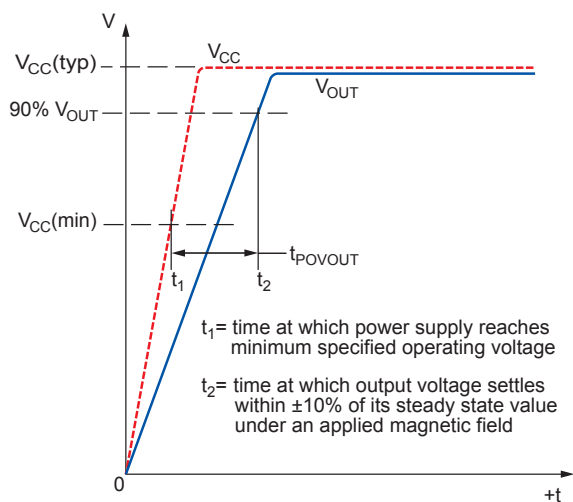

Figure 1. Definition of analog Power-On Time,  $t_{POVOUT}$
**Power-On Time** When the supply is ramped to its operating voltage, the device requires a finite time to power its internal components before supplying a valid PWM output duty-cycle. Power-On Time for analog output,  $t_{POVOUT}$ , is defined as the time it takes for the output voltage to settle within  $\pm 10\%$  of its steady state value after the power supply has reached its minimum specified operating voltage,  $V_{CC(min)}$ . (See figure 1.)